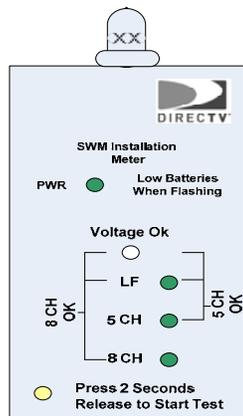

Figure 1
- # 17 – Refer to Figure 1 – 4 for test results (SWM meter trouble shooting chart page)